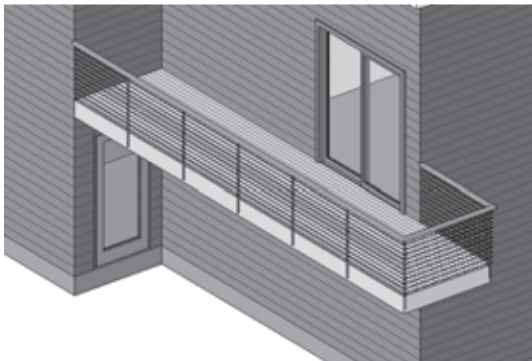

Figure 4.129
2. You will be put into Path creation mode. Using the Lines tool , draw a railing along the edges of the exterior deck, as shown in Figure 4.129.